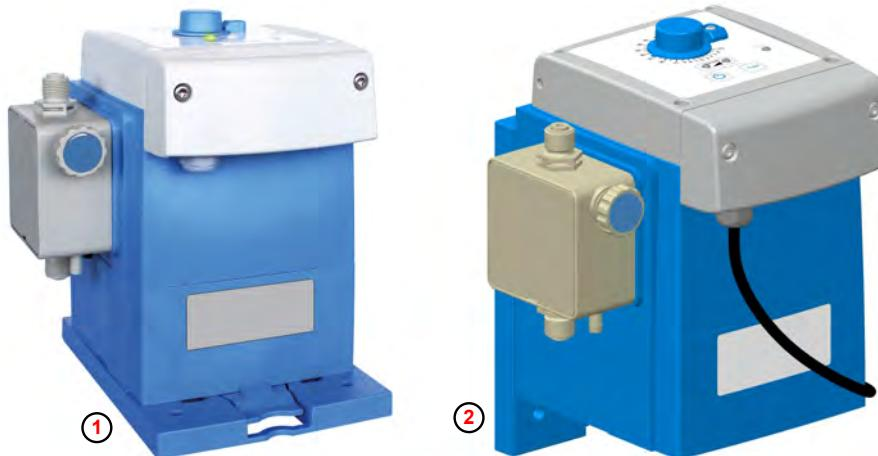

Fig. 3: Countertop and wall-mounting
① Countertop-mounting
② Wall mounting
The pump can be mounted both upright (e.g. on a bracket or on the metering container (Fig. 3 , ①), or on the wall ② .